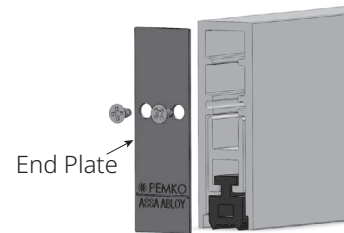

Figure 4 - Properly Installed End Plate
3. Install the end plate opposite the plunger, with the "This Side In" sticker towards the ADB, using the end plate screws as shown in Figure 4.